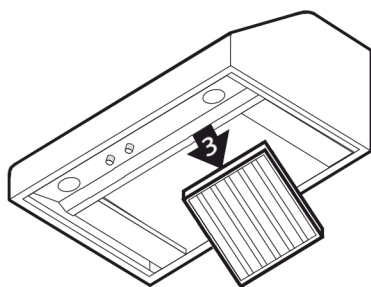

FIGURE 17: REMOVE THE STAINLESS STEEL BAFFLES – PART C
- c. Slide the baffle filter out of front channel of hood (FIGURE 17).